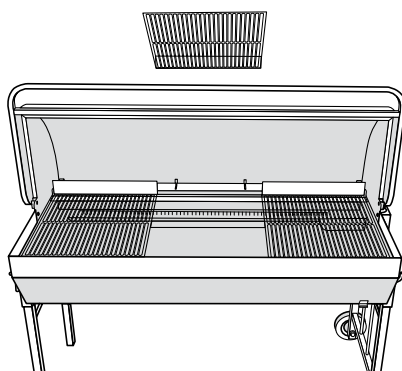

FIGURE F7
3. Place the food racks on the support rail at the front and rear of the Roaster. Ensure that the raised racks are placed at the rear of the Roaster (Figure F7).